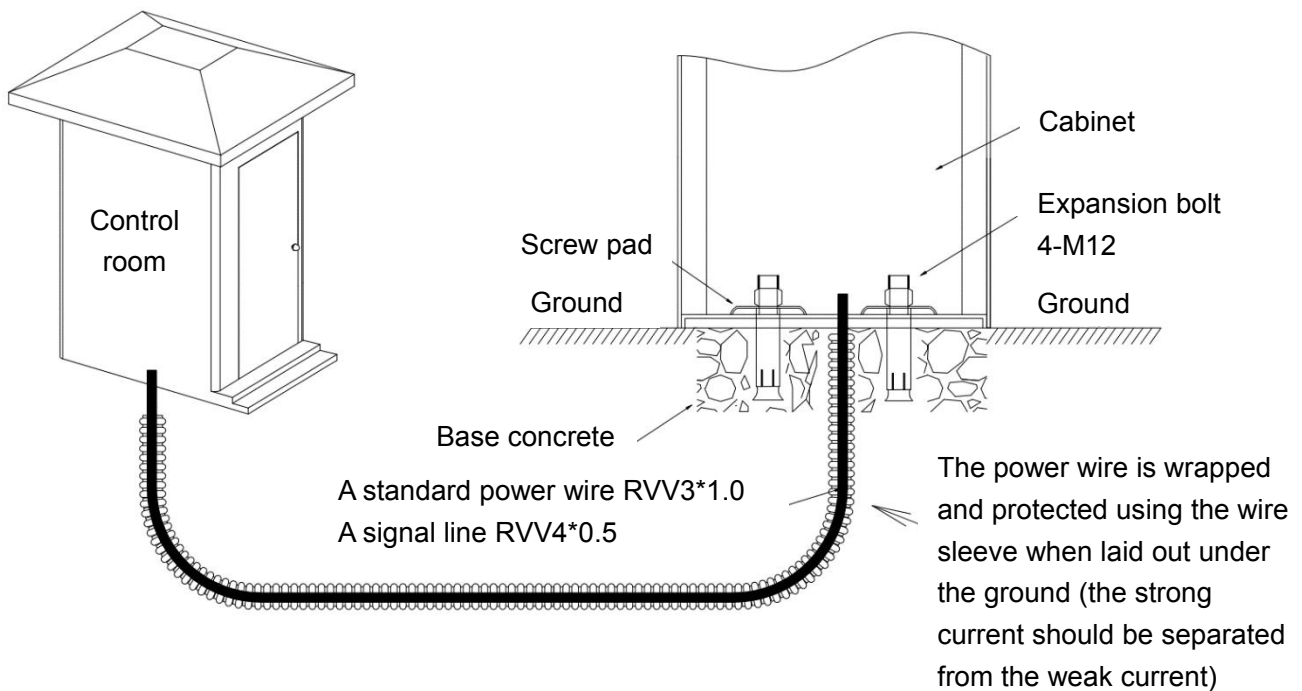

Figure 2-2 Cable embedding
- 3) Use a tool to open a cable tray on the ground, see figure 2-2.